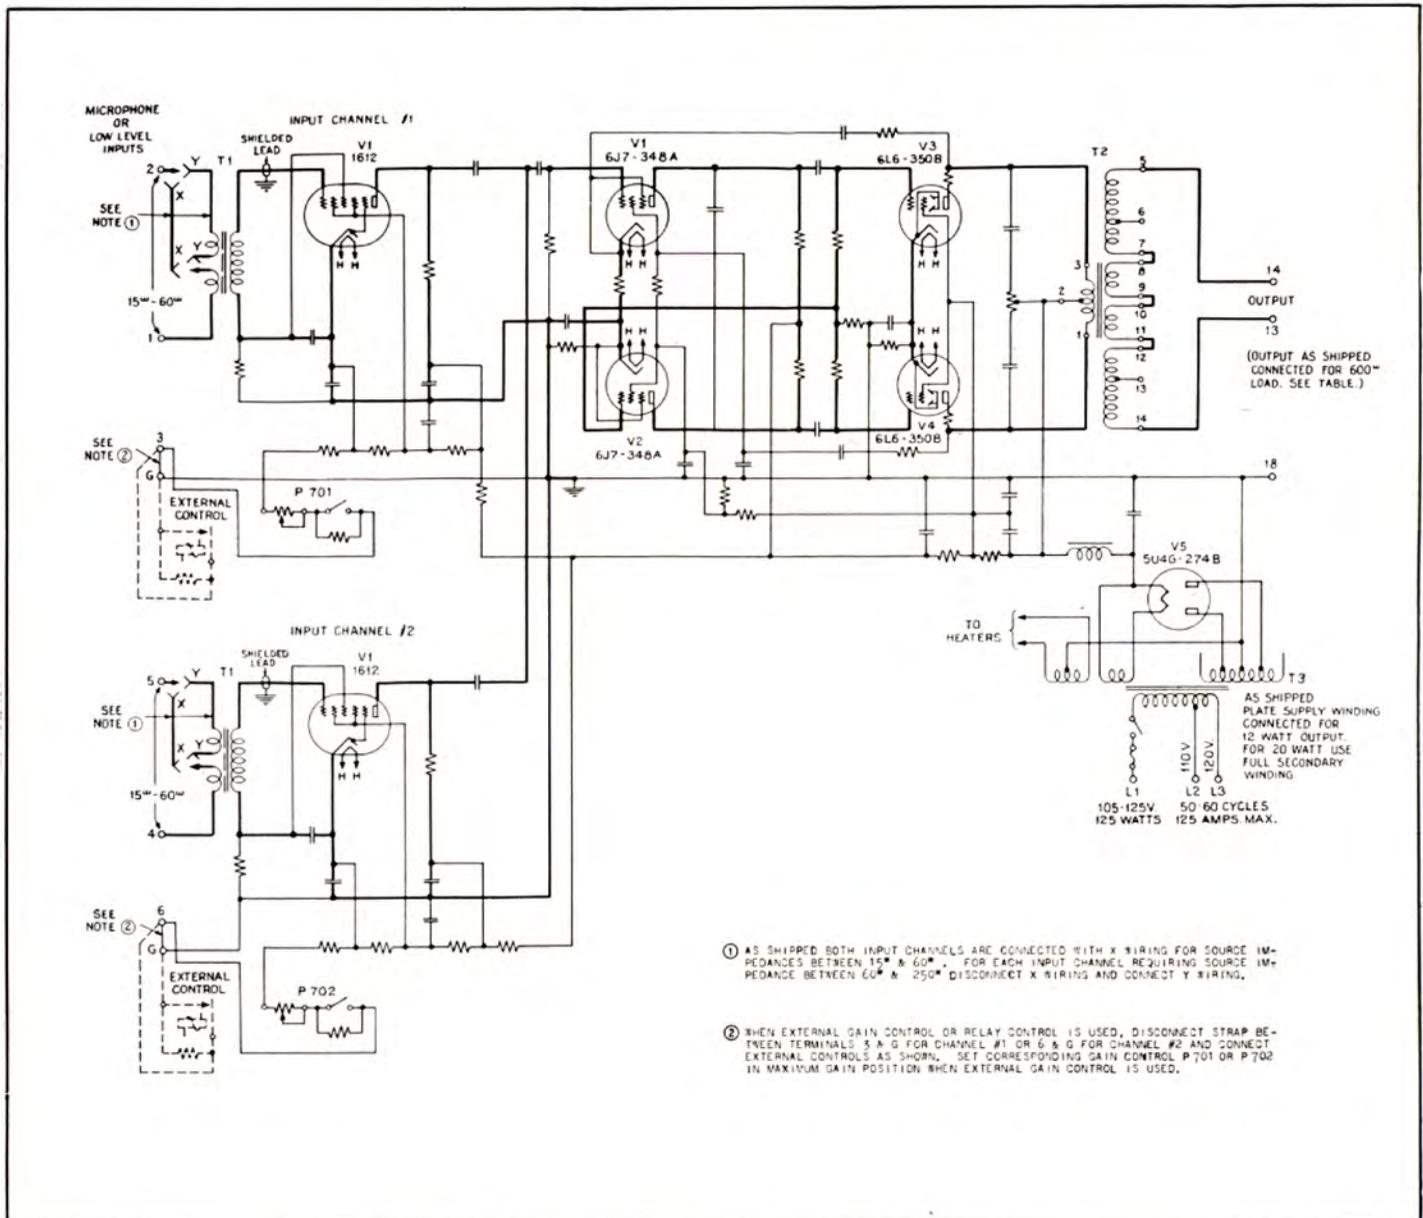

Figure 23 — Schematic of 124G Monitor and Audition Amplifier.
**Source Impedance:** 15 to 250 ohms. See schematic for connections, Figure 23.